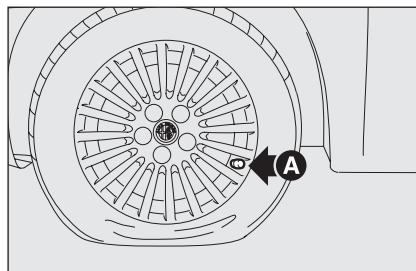

fig. 16
- ☐ set the wheel to be repaired with valve **A-fig. 16** in the position shown in the figure, **then pull up the handbrake**, take the quick tyre repair kit and put it on the ground near the wheel to be repaired;